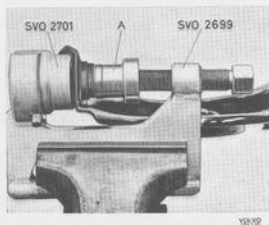

Fig. 6-37. Removing bush, lower control arm
1. Tension the press tool 2699 in the vice. Remove the washer (1, Fig. 6-15), the rubber ring (2) and the spacer ring (3). Press the bushes out with counterhold 2701. Use drift 2904 for bushes where diagonal tyres are fitted and 2905 for radial tyres. The tools are placed as shown in Fig. 6-37. The bushes are, of course, pressed out in the direction towards their flanges.
2. Press in the bushes with control arm and drift (A, Fig. 6-37) facing in the opposite direction.
The layout of the steering is shown in Fig. 6-37. Movement of the steering wheel is transmitted to